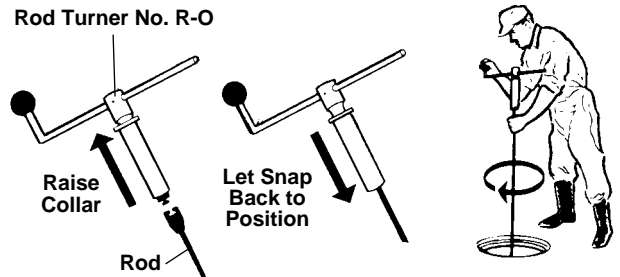

Figure 7 – Hand Operated Rod Turner
13. Remove rod turner (*Figure 7*).